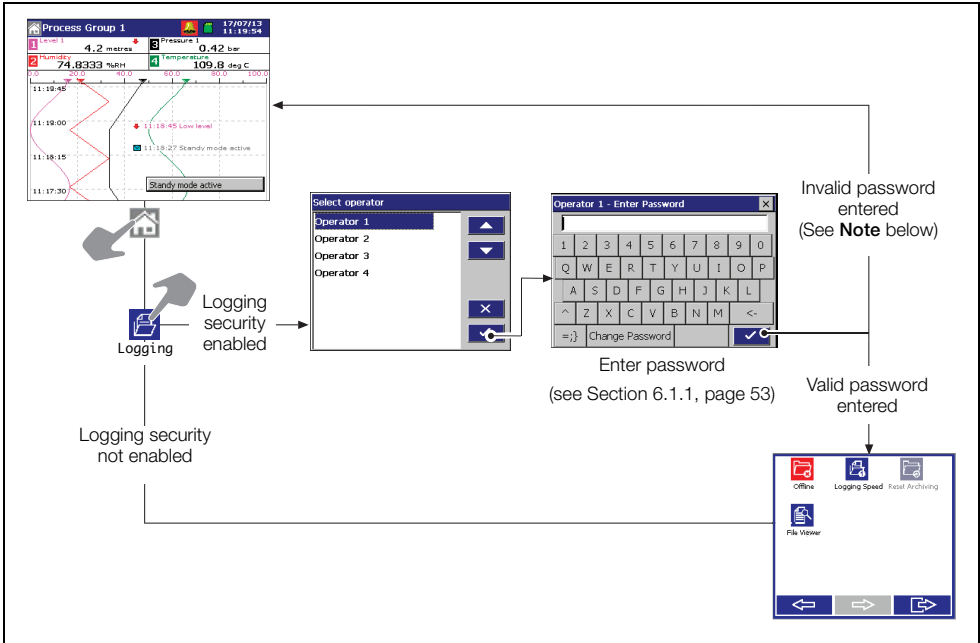

Fig. 6.2 Accessing logging – advanced security
- If Security System is set to *Advanced* and Logging Security is set to *On*, access to the Logging facility is protected by a unique password for each authorized user. Refer to Fig. 6.2, page 52 to access Logging.